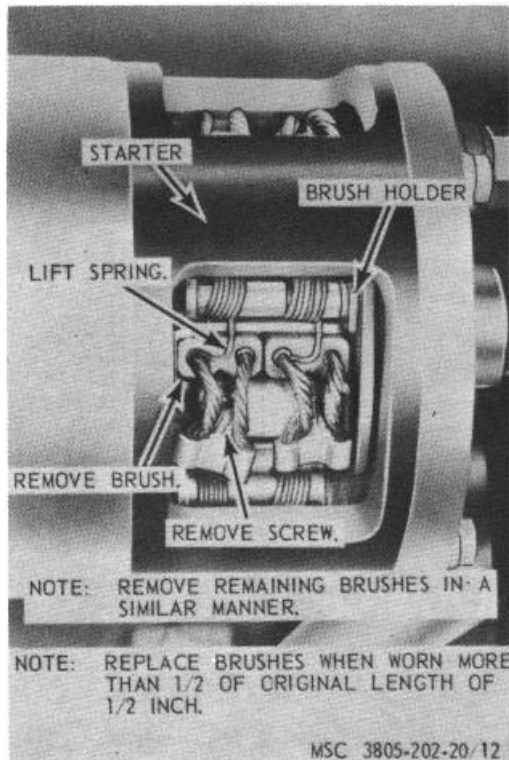

Figure 47. Starter brush, replacement.
- (c) Remove the brushes as instructed on figure 47.
- (a) Install the brushes as illustrated on figure 47. Fit brushes to commutator. Place new brush in position with a piece of medium grade sandpaper under the brush with the back (smooth side) of the sandpaper held closely in contact